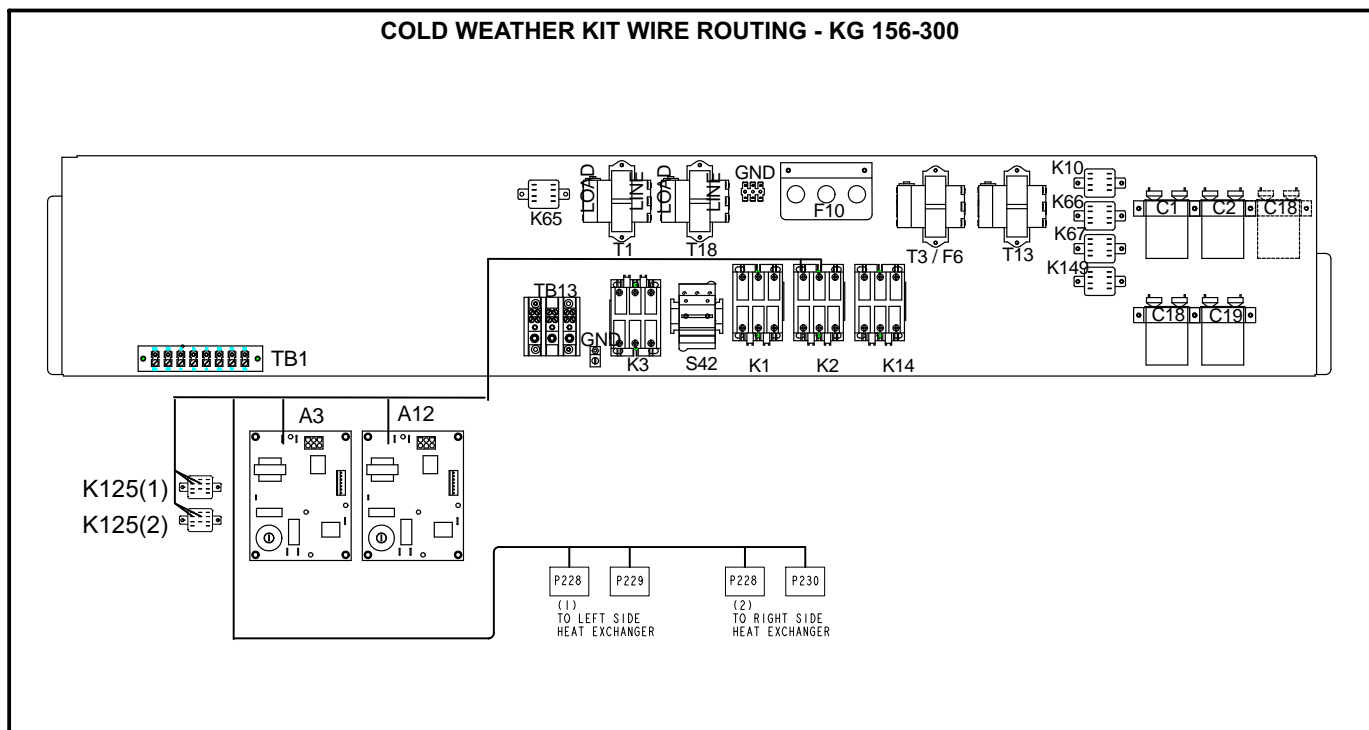

FIGURE 11
- 3- Install both K125 relays in control area above compressors. Secure with #8 screws. See figure 11.